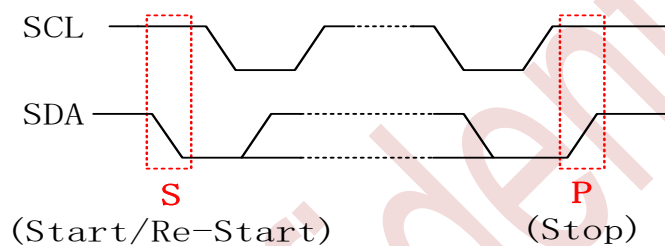

Figure 9-4 Start & Stop Timing
- Start/Re-Start: SDA change from HIGH to LOW while SCL is HIGH, See Figure 9-4.
- Stop: SDA change from LOW to HIGH while SCL is HIGH, see Figure 9-4.